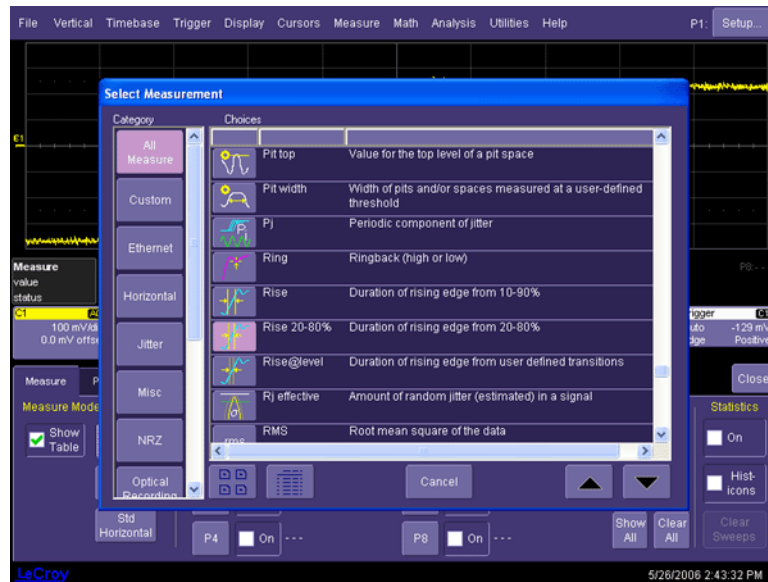

Figure 7-3. Measure Menu Setup
- k. Set a measurement function to measure **Rise 20-80%** (Figure 7-3).